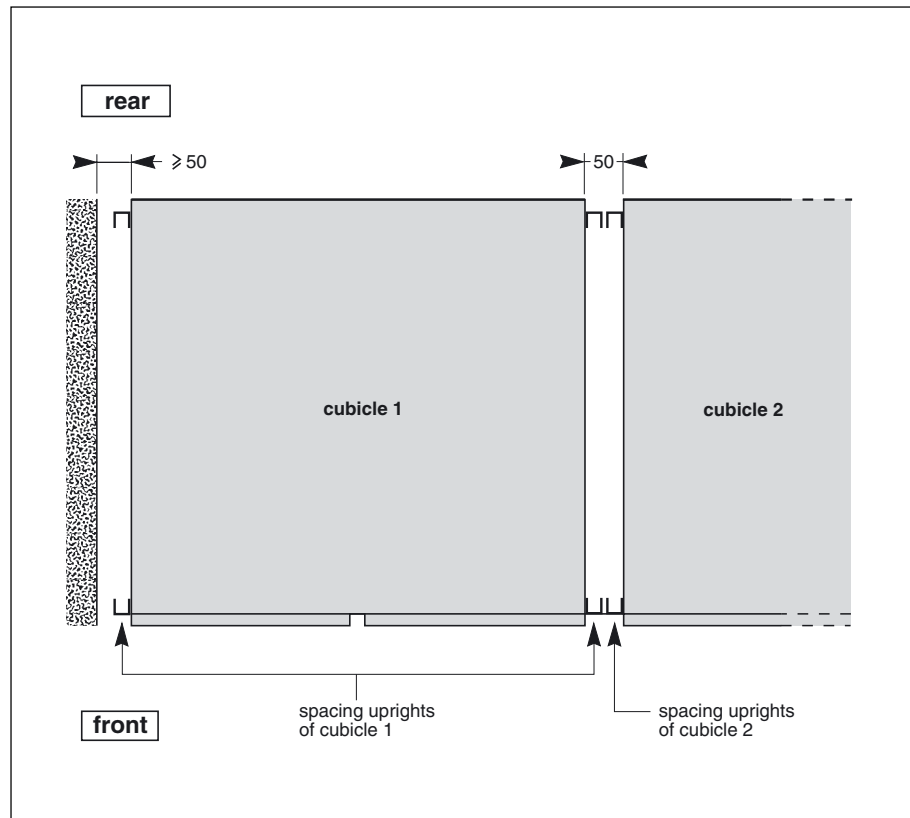

Fig. 4
- ▶ spacing uprights on the sides of the cubicles create a 50 mm clearance when cubicles are positioned next to each other, enabling users to open the doors (see figure 4). If a cubicle is installed next to a wall, leave additional space so that the cubicle is 50 mm from the wall;